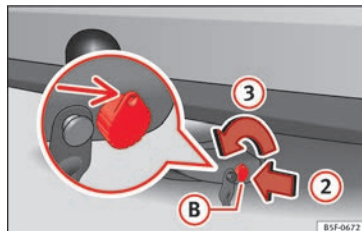

Fig. 231 Releasing the lock.
- Insert key **(B)** into the lock in the direction of arrow **(2)** » Fig. 231.